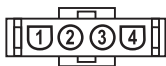

Figure 6
7. Check the voltage between positions 4 and 5 of the power cord connector [Figure 6].